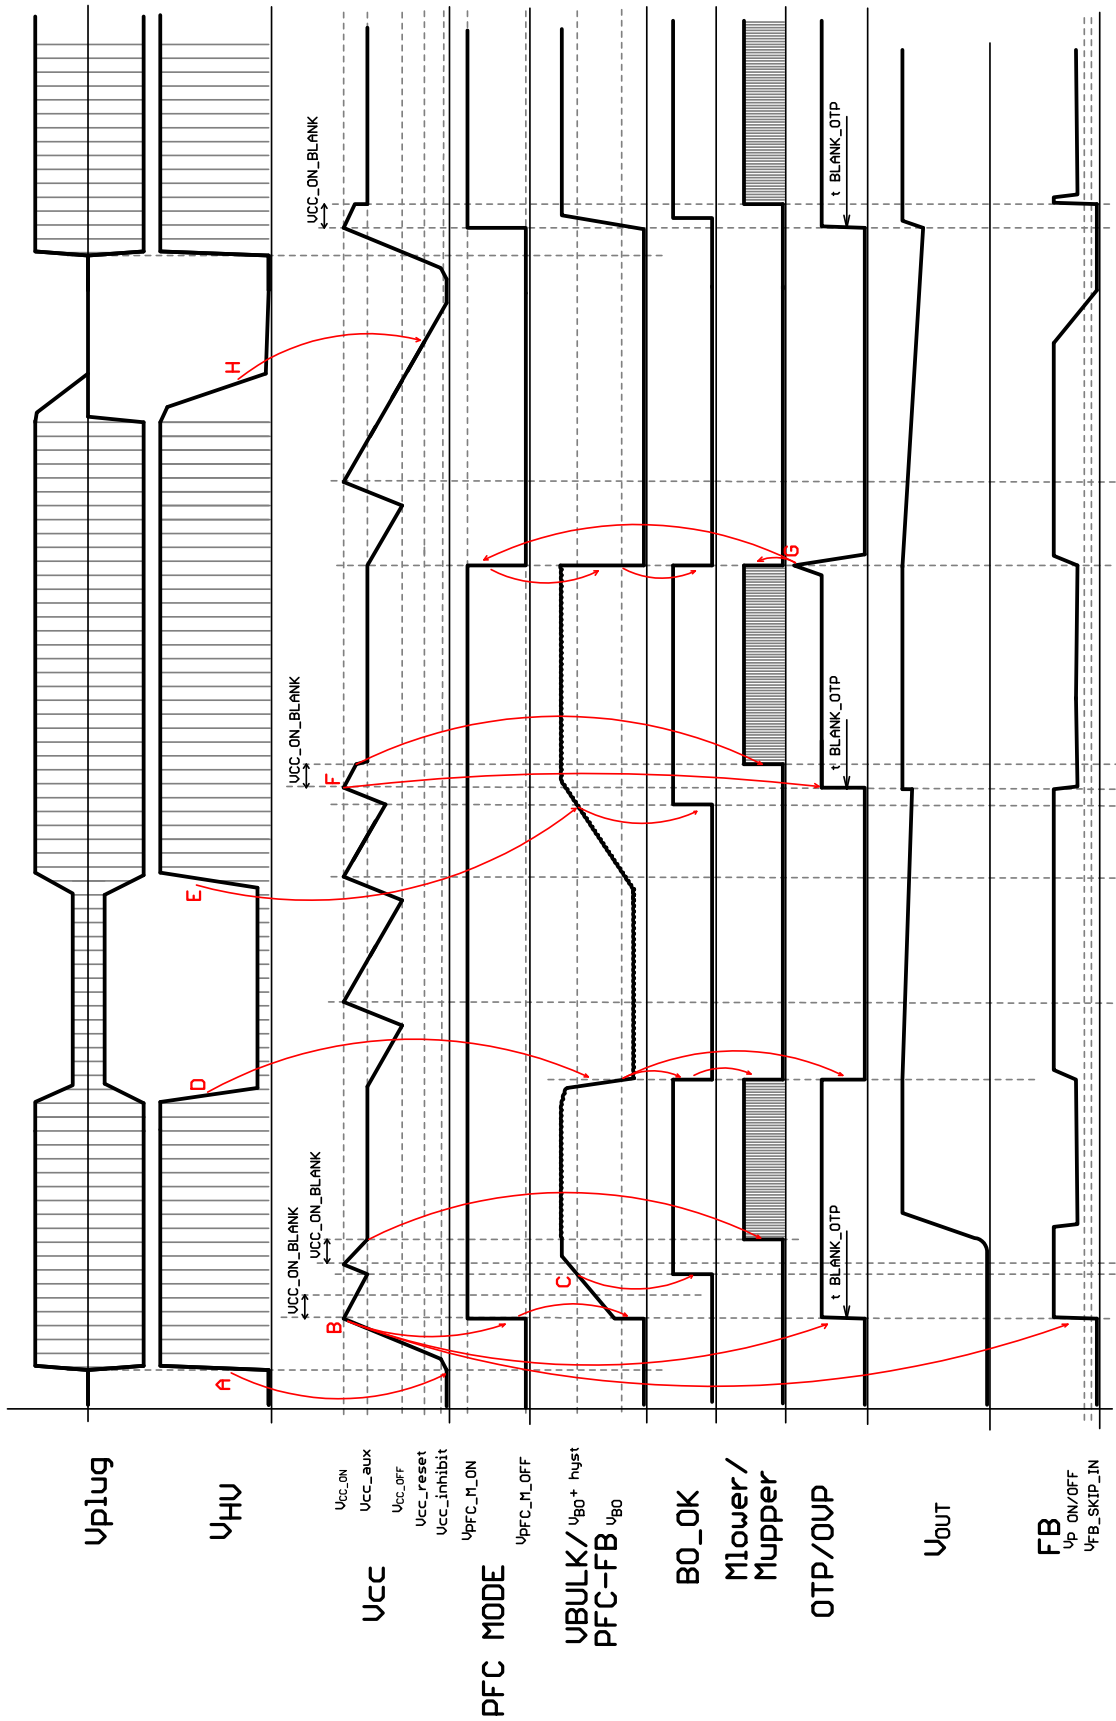

Figure 23. Application Start, Brown-out Off and Restart, OVP/OTP Latch and then Restart
1. Application start, Brown-out off and restart, OVP/OTP latch and then restart – Figure 23
Operating waveforms descriptions for this figure is similar to one for Figure 23 from point **A** till point **G** – with one difference. The skip mode operation (FB < V_{FB_SKIP_IN}) blocks the IC startup after first V_{CC_ON} event instead of BO_fault.